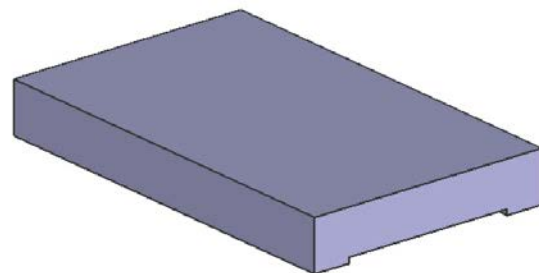

Figure 6-81 The resulting base feature
6. Choose the **Apply** button and then close the dialog box by choosing the **Cancel** button. The resulting base feature is shown in Figure 6-81.